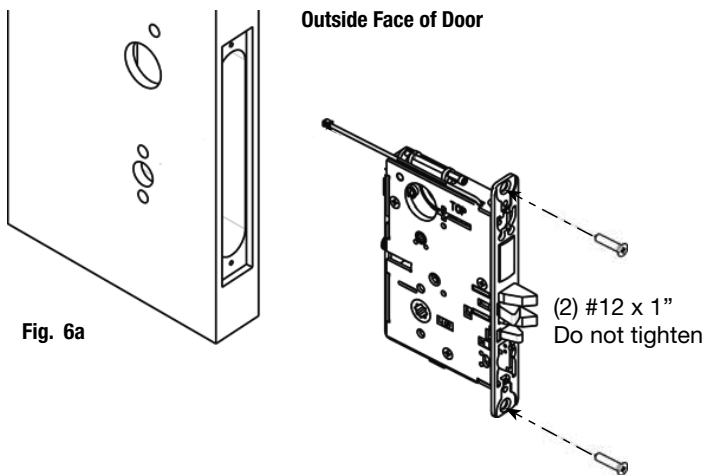

Fig. 6a
- Feed wires through 1-5/16" diameter hole on INSIDE of door while installing lock body (Fig. 6a).
- Install, but do not tighten two #12 x 1" combination screws through lock body (Fig. 6a).